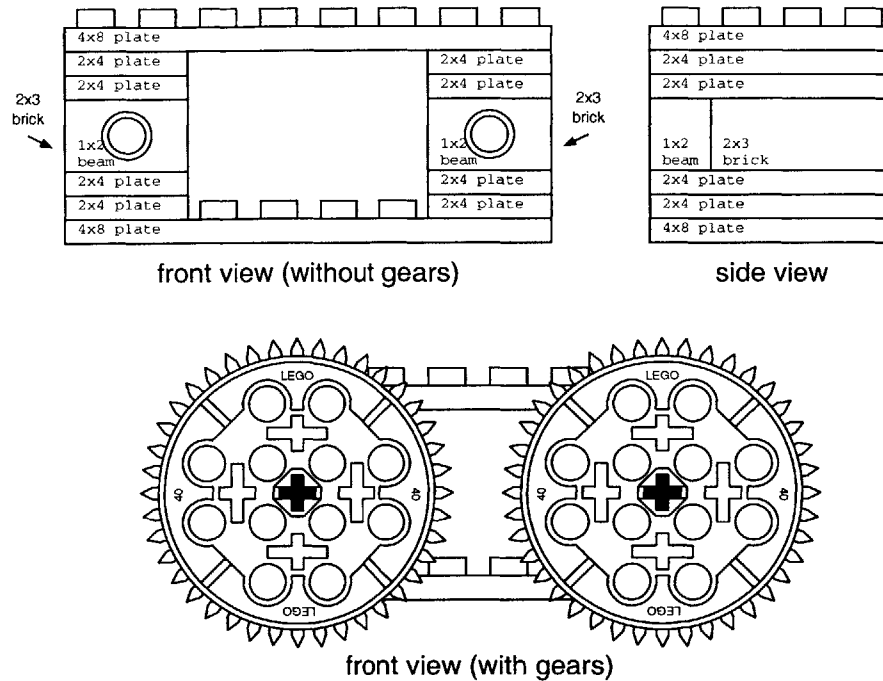

Figure 4-8: Jig for motor assembly
- Construct the jig shown in figure 4-8 without the topmost 4x8 LEGO plate. This will be necessary to align the pieces as they are assembled.